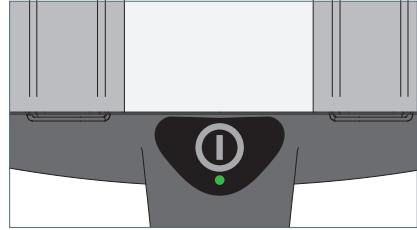

Fig. 3: Key.
- ▶ Press the key, see Fig. 3.
- ▶ Press the key and keep it depressed, see Fig. 3.